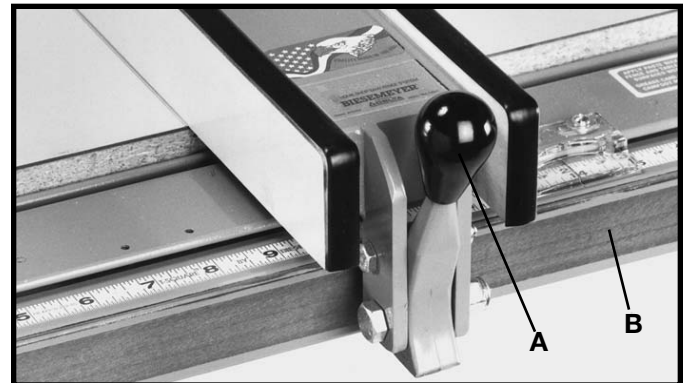
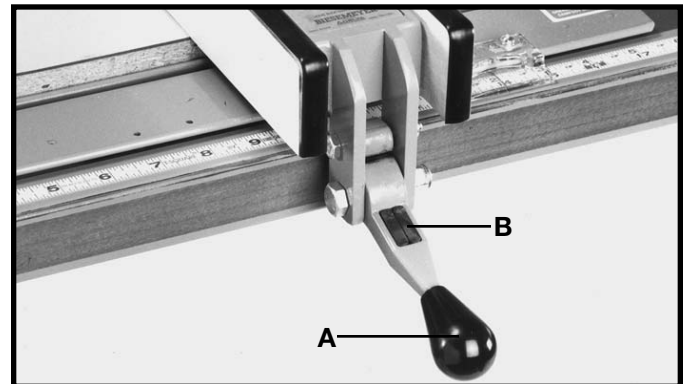

Fig. 99
Fig. 100
1. To place the fence on the guide rail, lift up clamp (A) Fig. 50, and place the fence over the rail and gently push fence onto rail (B) Fig. 99.
2. To move the fence along the guide rail, lift up clamp lever (A) as shown in Fig. 99, slide fence to desired position on rail, and push down on clamp lever (A) as shown in Fig. 100, to lock fence in position. **NOTE:** A magnet (B) Fig. 100, is provided to hold clamp handle (A) in the up position when moving the fence.